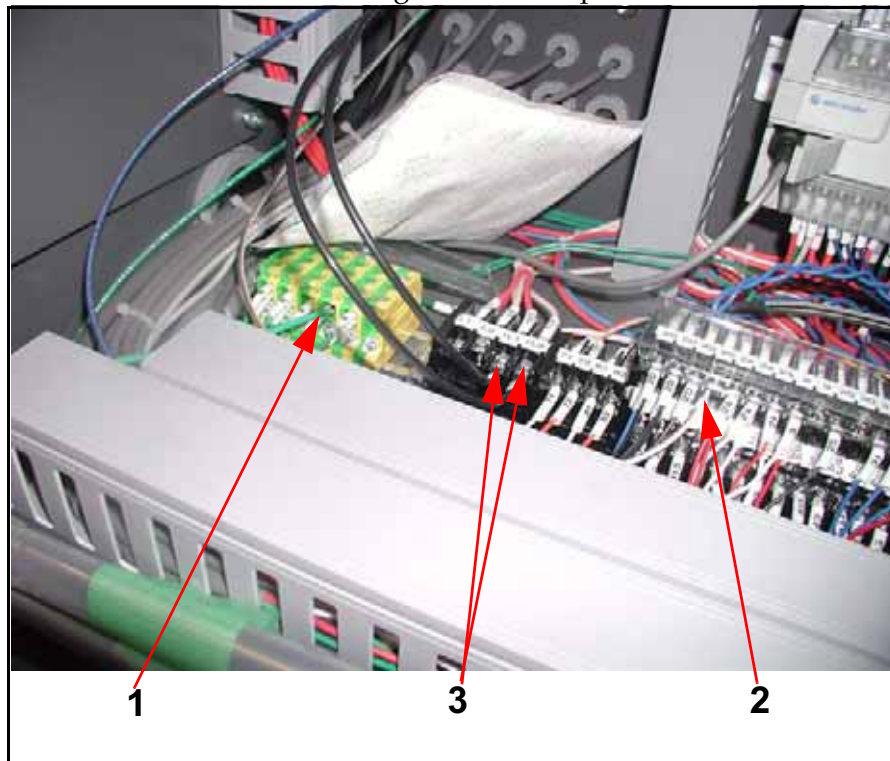

Figure 4-19. Wire Connections
- 4 Connect green wire (1 in Figure 4-19) from conduit to ground block.